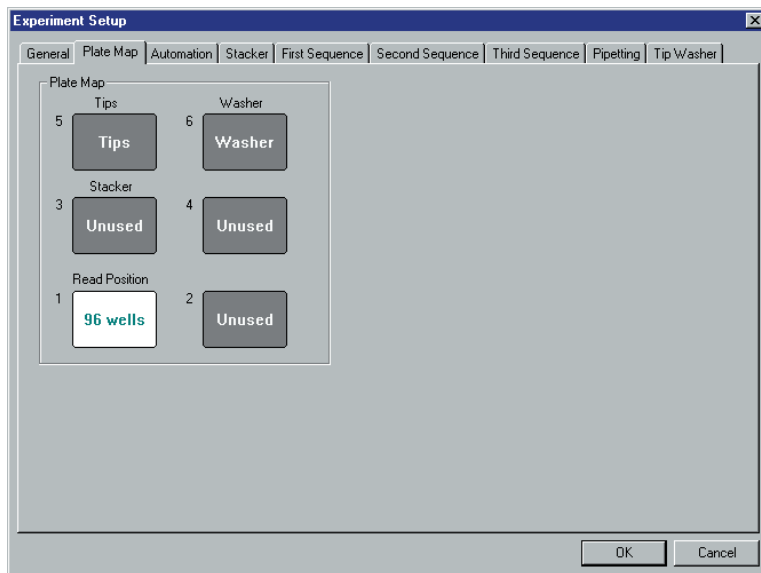

Figure 6-11: The **Plate Map** tab of the **Experiment Setup** dialog box
- 4) The **Plate Map** tab of the **Experiment Setup** dialog is used to define where the compound plates are located (refer to Figure 6-11). Make sure that position “3” is selected for the fluid addition if the compound plate will be coming from the stacker.